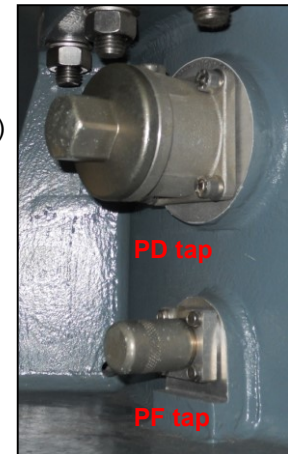

Fig. 28
On request bushings can be provided with PD (Voltage) tap, which is suitable for the connection to a Potential Device system or for the measurement of the power factor (fig. 28).
If present and not used, the Potential Device tap has to be grounded maintaining screwed its proper cap (see fig. 28).
If a Potential Device is connected to the potential device tap, we recommend filling with oil the internal part of the connection through the oil filling plug placed in the upper part of the tap (fig. 28 item 8), to avoid possible internal and dangerous sparking.
If the potential device tap is not used, we recommend checking if the cap of the oil filling screw (fig. 28 item 8) has been properly applied and screwed. On the contrary moisture entering can cause with time the corrosion of the tap connection contact, with dangerous sparking problems.
If present and not used, check the proper location and the suitable complete screwing of both the tap caps and of the oil filling screw, in order to prevent entrance of moisture (Fig. 28). Voltage tap If not used can remain empty, but we recommend filling it with mineral oil to prevent the entrance of moisture, that during the years can cause the corrosion of the tap connection contact, with dangerous sparking problems